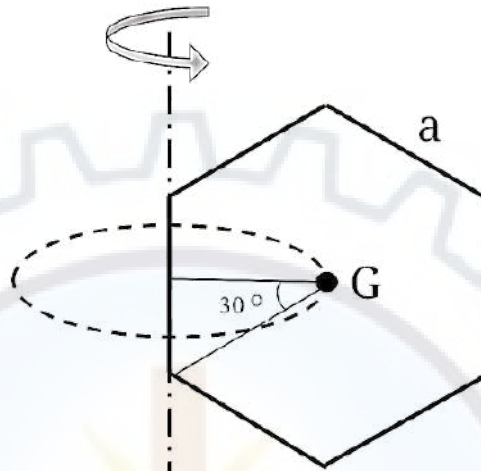

Figure 9
- (b) A regular hexagon of side length “a” as shown in Figure 9 is rotated about one of the sides. Apply suitable theorem to find the volume of the solid of revolution.